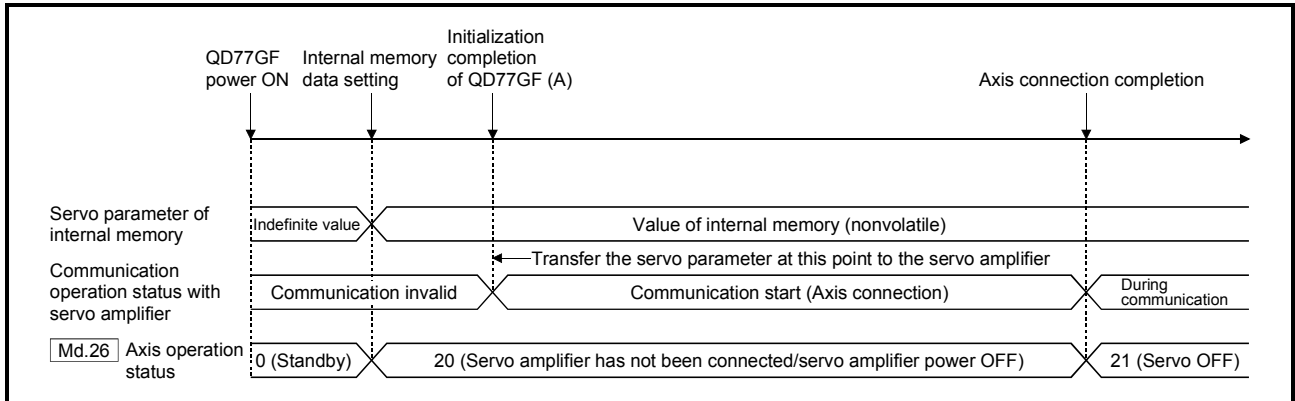

Fig. 7.1 When the servo amplifier had started before the system's power supply ON
(1) When the servo amplifier's power supply is turned ON before the system's power supply ON.
Communication start timing to the servo amplifier: Initialization completion (Fig. 7.1 (A))